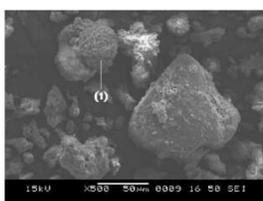

Figure 10. Scanning Electron Microscopy (SEM) image
- The SEM micrograph implies that a CFBA particle partially consists of fine pores (indicated as (1) in Figure 10), which makes it lighter in weight.